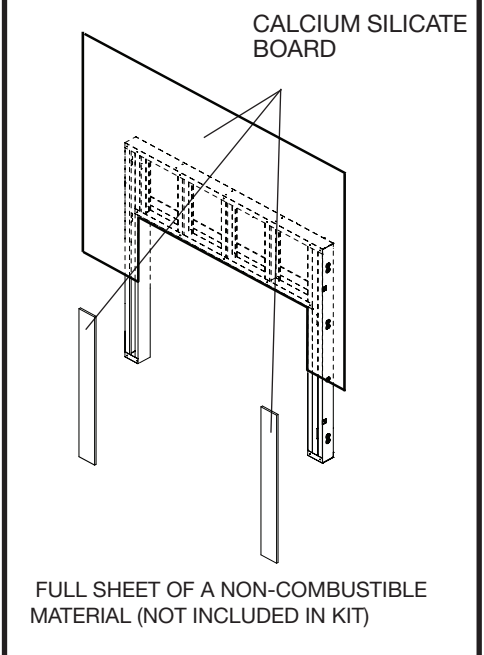

Figure 15: Non combustible calcium silicate board.
**CAUTION:** See Figure 15 BEFORE PROCEEDING.